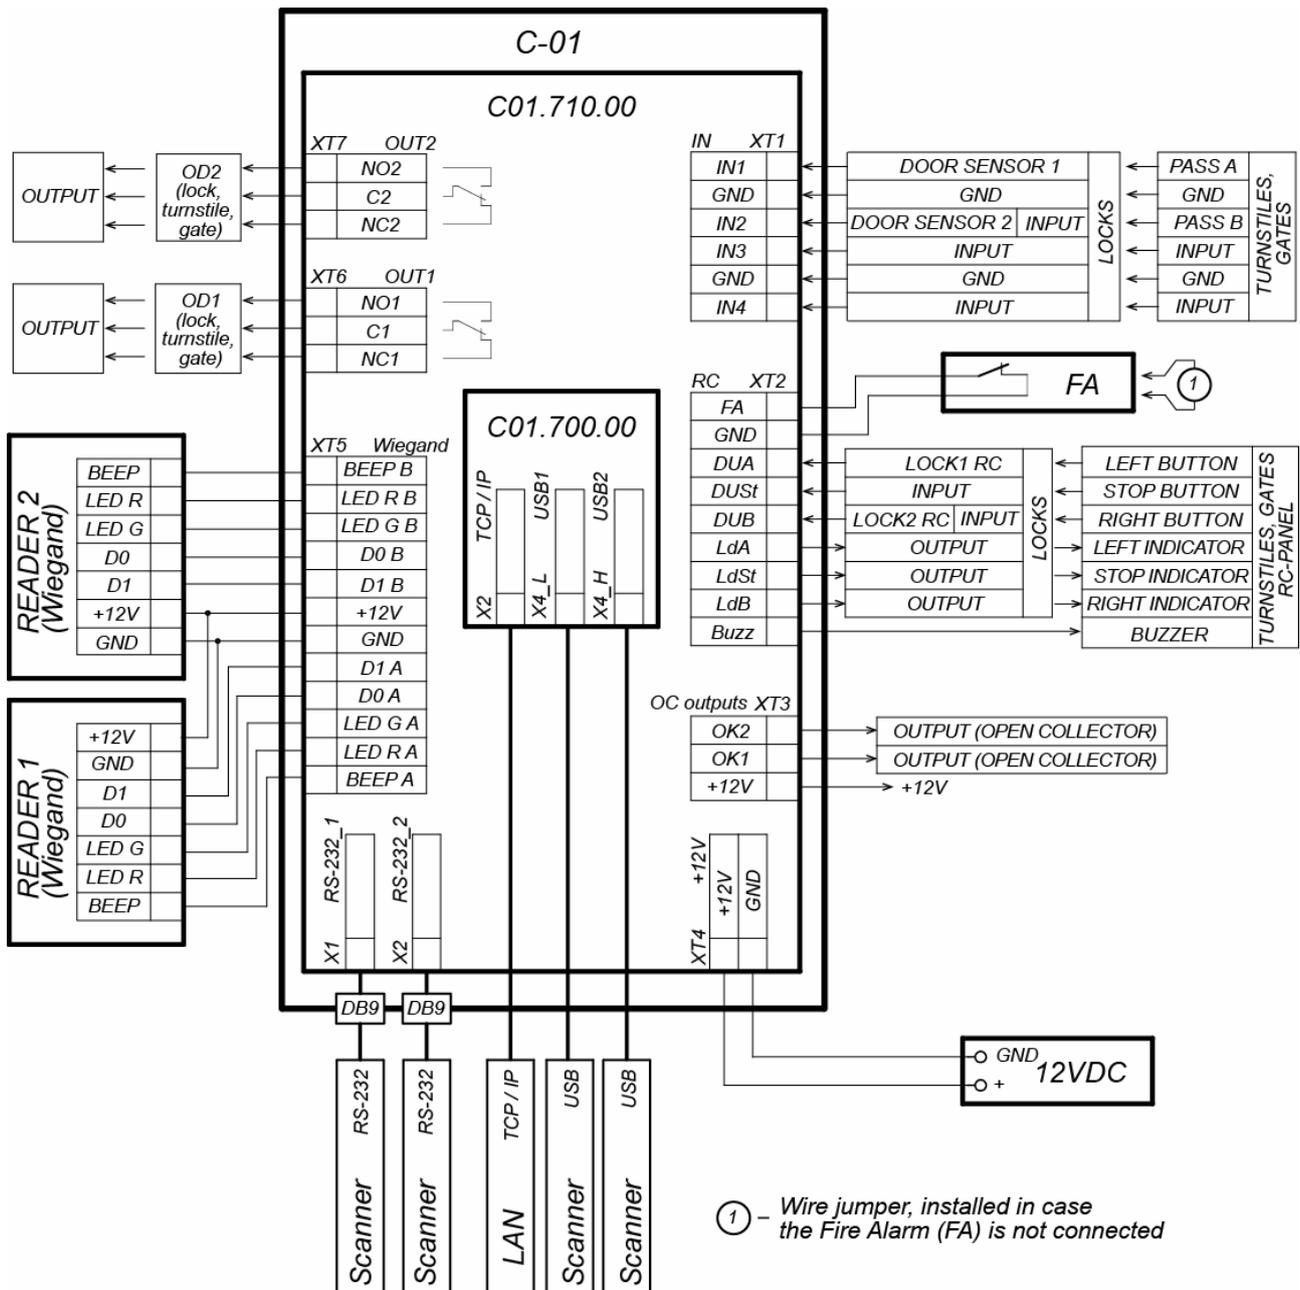
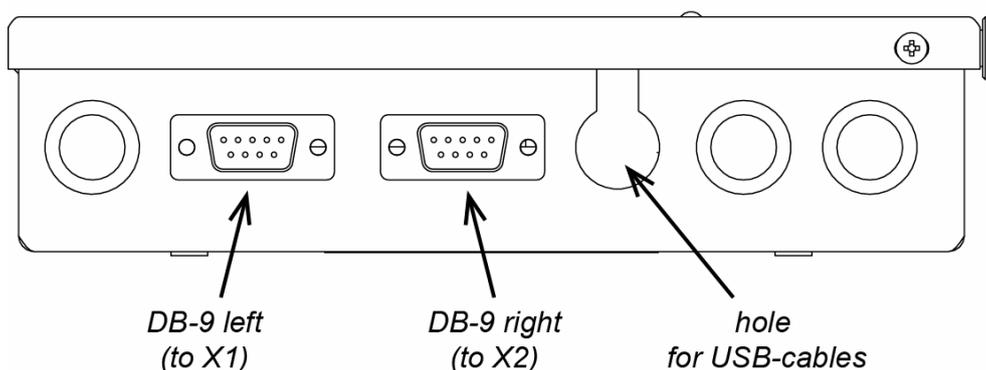

Figure 4. Common scheme of connections
Figure 5. Location of DB-9 (RS-232) connectors on the housing
The controller is equipped with four relay outputs *OUT1*, *OUT2*. Connection to the outputs is performed via *XT6*, *XT7* connecting blocks of the controller bottom board. Every output has a complex group of contacts: normally open *NO*, normally closed *NC* and common output *C*. Outputs may be used for (Figure 4):
The controller is equipped with two outputs “open collector”: *OK1* and *OK2* (Figure 4). Connection to the outputs is carried out via *XT3* connecting block of the controller bottom board.
Outputs can be used (Figure 4):
Connection to the controller is performed in accordance with scheme shown on Figures 4 – 16 with the use of cables from Table 2. The position of connecting blocks on the controller's board is presented on Figure 2.
7. Connect PS, connect cable from PS **XT4** connecting block of the controller in accordance with the scheme, shown on Figure 4.
Readers should be connected correspondingly to the contacts of **XT5** connector in accordance with general connection scheme (Figure 4). It is necessary to select *Wiegand* value for «Communication interface» parameter (see Figure 6).
Scanners should be connected correspondingly to the contacts of DB9 (RS-232) connector that is located on the housing of the controller (see Figure 5). DB9 left connector should be connected to **X1** connector located on the bottom board of the controller, right connector – to **X2** connector (see Figure 4).
Connect scanners via *USB* interface by using **X4** connector located on the controller top board (USB double-sided connector: USB1 is located at the bottom, USB2 – at the top, see Figure 1). Use profiled hole for cabling into controller housing (see Figure 5).
2. Connect the lock (the latch) to **XT6** or **XT7** connecting blocks on the lower board of the controller is made in accordance with scheme (Figure 4).